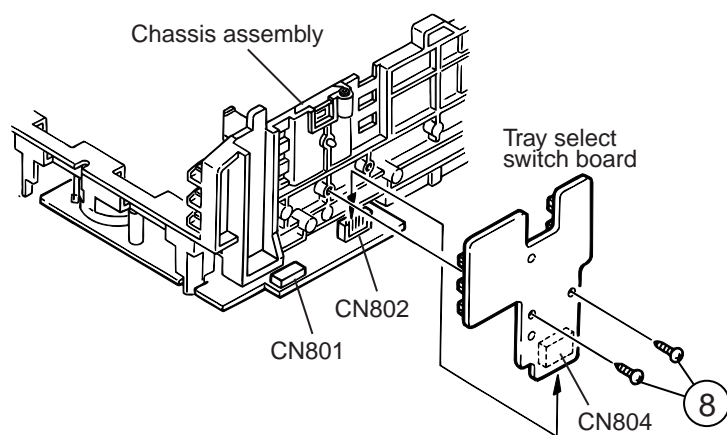

Fig.14
■ Removing the cam unit (See Fig.14 ~17)